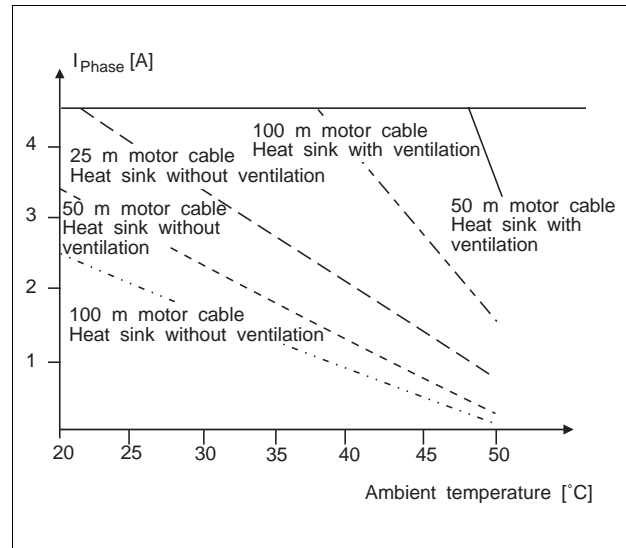

Fig. 2-16 Admissible phase current as a function of ambient temperature and motor cable length
7. Set motor phase current at selector switch (01) in accordance with the motor type plate and the following diagram (fig. 2-16):